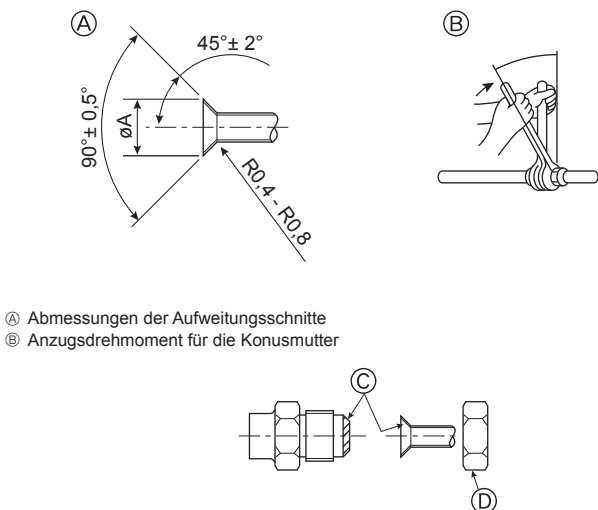

Fig. 4-8
Ⓐ (Fig. 4-8)
Ⓑ (Fig. 4-8)
4.2. Rohranschlüsse (Fig. 4-8)